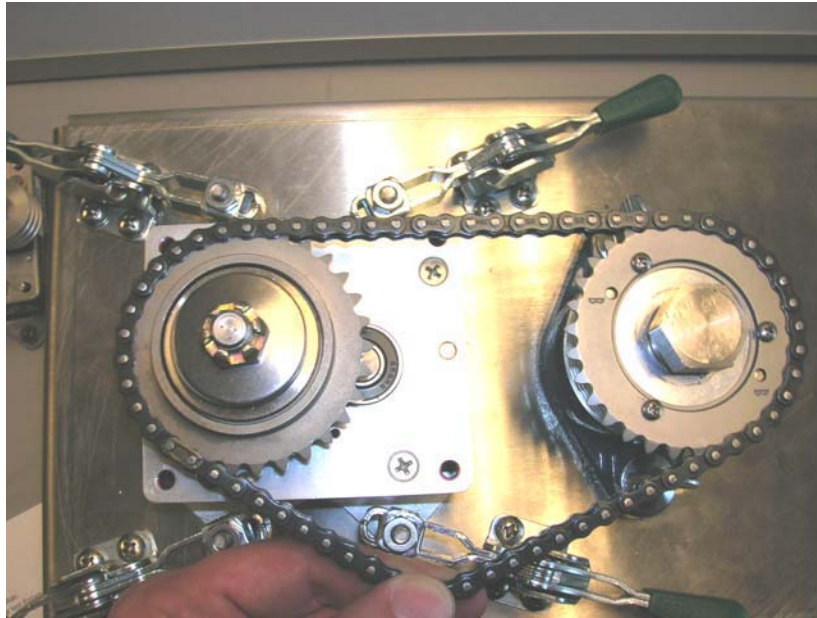

Figure 3-26. Chain engaged on both sprockets, supported by hand
- 2) Support the chain to keep the teeth of the sprockets engaged while installing the chain on the test fixture sprocket (Figure 3-26).